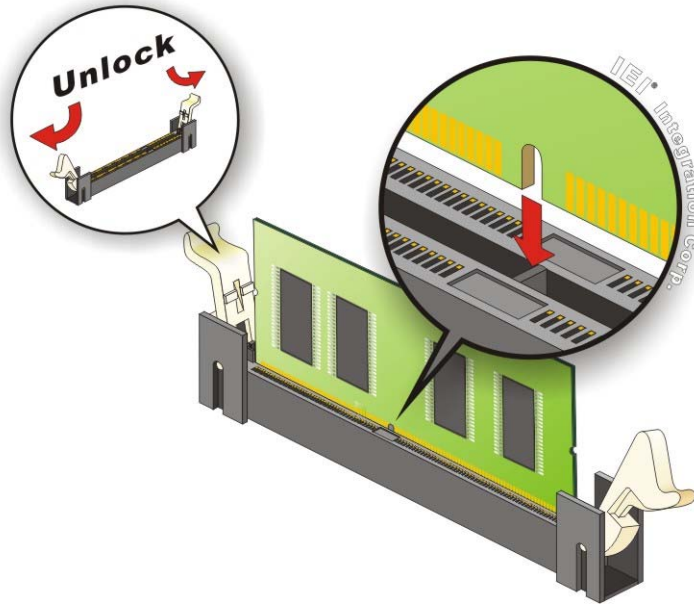

Figure 4-1: SO-DIMM Installation (DDR4)
To install a SO-DIMM, please follow the steps below and refer to Figure 4-1.
- Step 1: Open the SO-DIMM socket handles.** Open the two handles outwards as far as they can. See Figure 4-1.
- Step 2: Align the SO-DIMM with the socket.** Align the SO-DIMM so the notch on the memory lines up with the notch on the memory socket. See Figure 4-1.
- Step 3: Insert the SO-DIMM.** Once aligned, press down until the SO-DIMM is properly seated. Clip the two handles into place. See Figure 4-1.